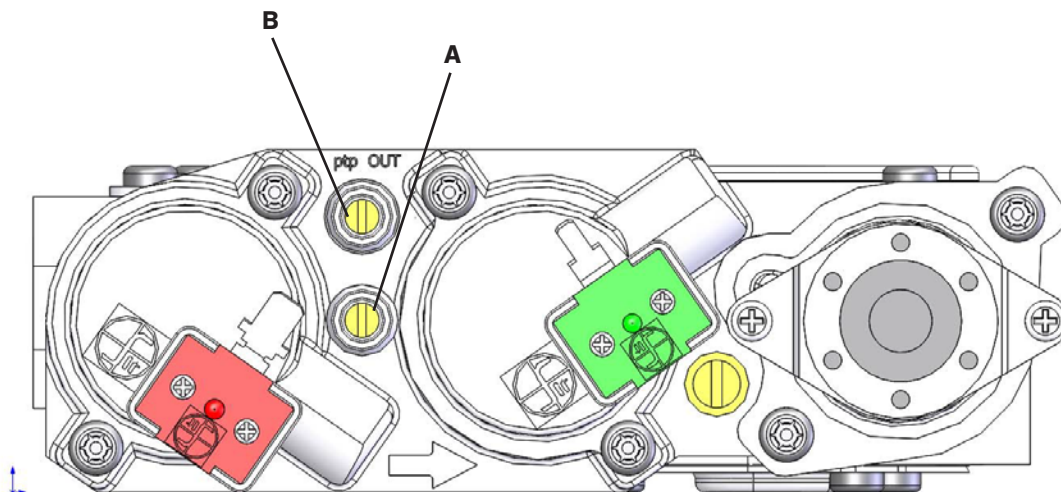

Figure 10.1, Pressure Check Taps
1. Loosen the inlet (IN) pressure tap by turning screw counter-clockwise. See (A) in Figure 10.1.
5. Disconnect hose and tighten the inlet (IN) pressure tap by turning screw clockwise. Screw should be snug. Do not over tighten.
6. Relight pilot and burner. Then reattach manometer to the inlet pressure tap (A) to verify the tap is completely sealed. Manometer should read no pressure.
2. Loosen manifold (OUT) pressure tap by turning screw counter-clockwise. See (B) in Figure 10.1.
7. Attach the manometer to the manifold pressure tap (B) to verify it is completely sealed. The manometer should read no pressure when pilot and burner are on.